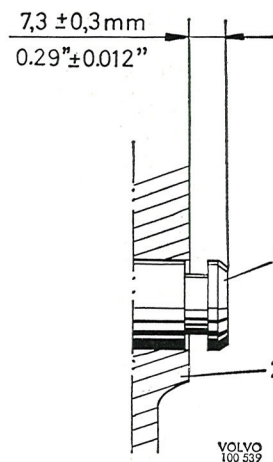

Fig. 4-38. Fitting the reverse shaft
1. Fit the striker lever and striker. Fit the reverse gear and reverse shaft. The reverse shaft is fitted so that it projects 7.0–7.6 mm (0.276–0.300") outside the gearbox housing, see Fig. 4-38.